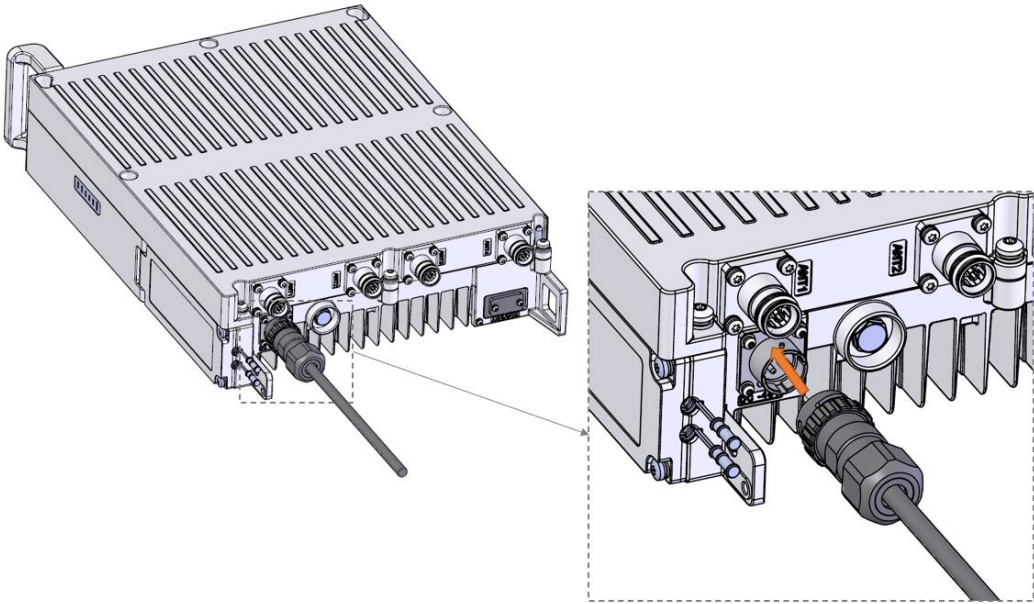

Figure 4-21 Installing the power supply cable
Step 1: Install the Power supply cable into the connector on ORRU side and locked the plug with socket as shown in Figure4-21.